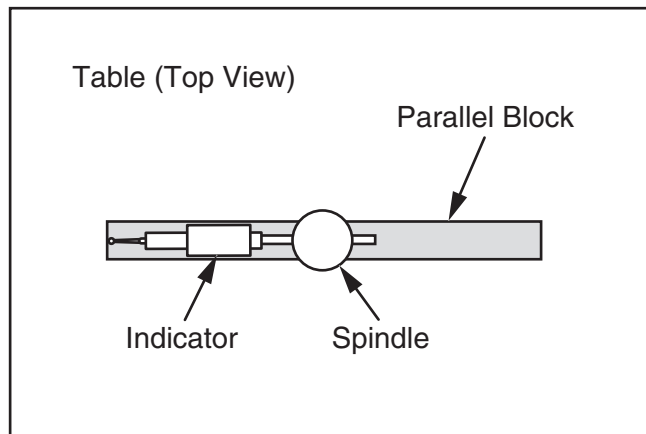

Figure 88. Parallel block and indicator positioned for the X-axis measurement (top view).
- To measure spindle alignment along X-axis, place parallel block directly under spindle and indicator across length of table, as illustrated in **Figure 88**.